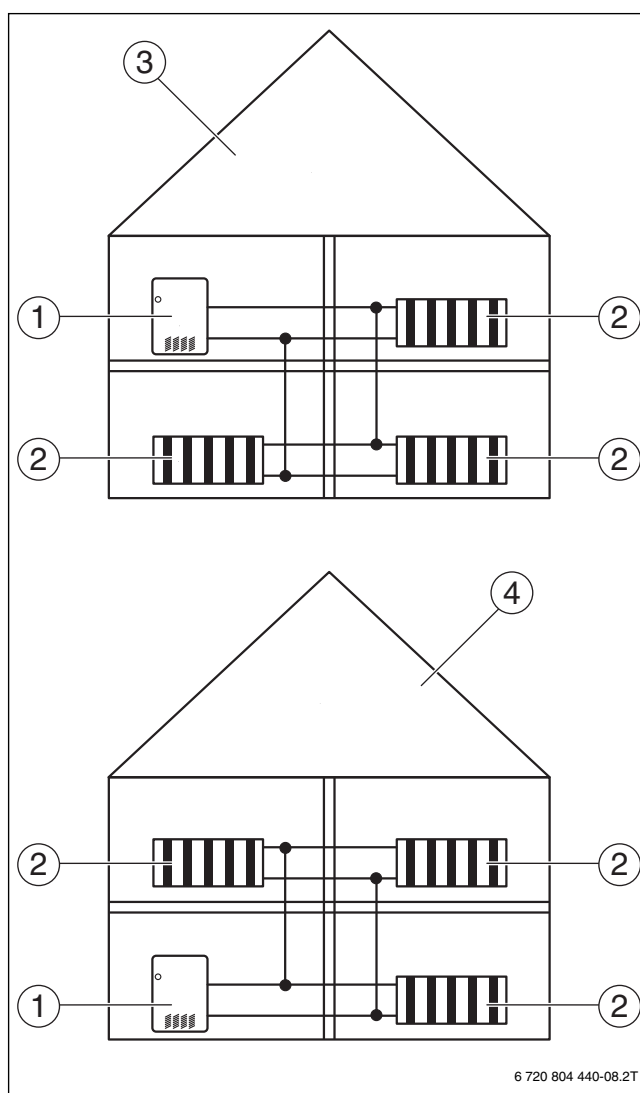

Fig. 8 Low-water cut-off installation
- Note that a boiler installed above the level of the heating system must be equipped with a low-water cut-off. The low-water cut-off must be installed during installation of the boiler and placed above the water level in the boiler without any means of shutting the water off between the boiler and low water cut-off (→ figure 8).